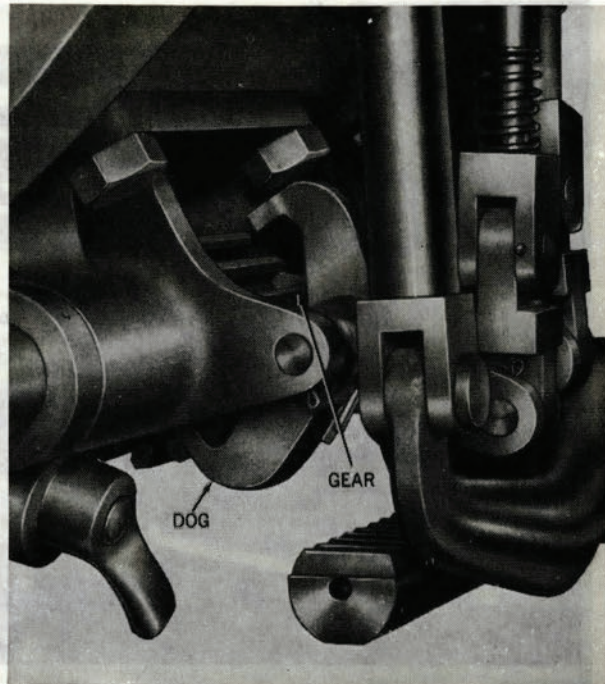

Figure 209—Position of Dog on Hand Operating Shaft—Drain Valve and Muzzle Door Interlock Lever at MUZZLE DOOR CLOSED.
3. An interlock acts upon the hand-operating shaft to give the same results as in power operation. This is accomplished by a connecting rod from the drain valve and muzzle door interlock lever which connects at its lower end to a dog engaging a gear on the breech end of the hand-operating shaft, figures 209 and 210.